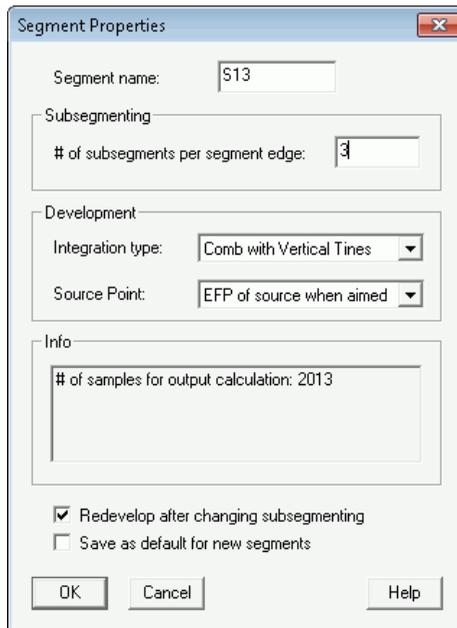

Figure 2.11 Setting grid resolution (sub-segmenting)
- 3 Change the **# of subsegments per segment edge** to 3 under **Subsegmenting** on the Segment Properties dialog box, as shown in Figure 2.11, and click **OK**.